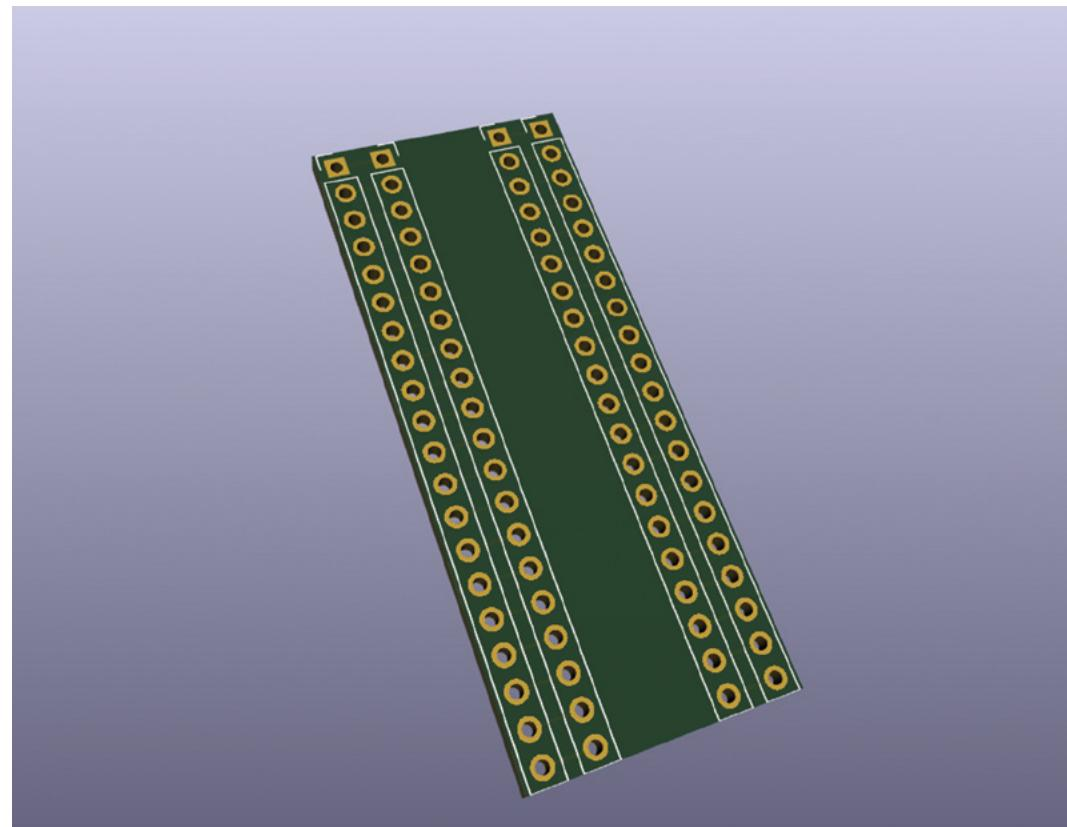

Figure 7 A first glimpse of our rendered PCB board
Once we have positioned the board edge rectangle correctly, we can get a first glimpse of our board in the 3D Viewer. You can actually look at the board in the 3D Viewer before adding an edge cut, and it will render to a rectangle size that is the smallest that can accommodate all the footprints currently in the PCB. To view the PCB, click View > 3D Viewer. You'll see the board, but you'll notice that all the 3D models of the header sockets are all placed into the rows of holes. In reality, we would only want headers on the outer rows installed on the back of the board, with the inner rows left unpopulated, or possibly populated with header pins. We could edit the board and the component footprints to reflect this, but for this 'getting started' example, we can click the Toggle 3D Models for Through Hole type Components (T) icon to turn off the models (**Figure 7**). In future articles, we'll explore not only using correct 3D models but we'll